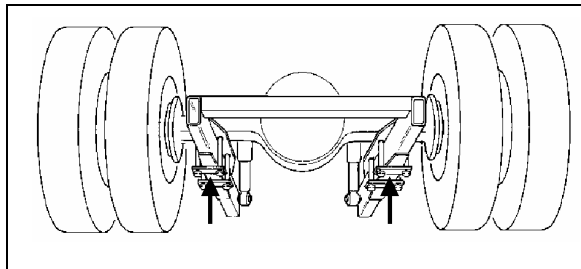
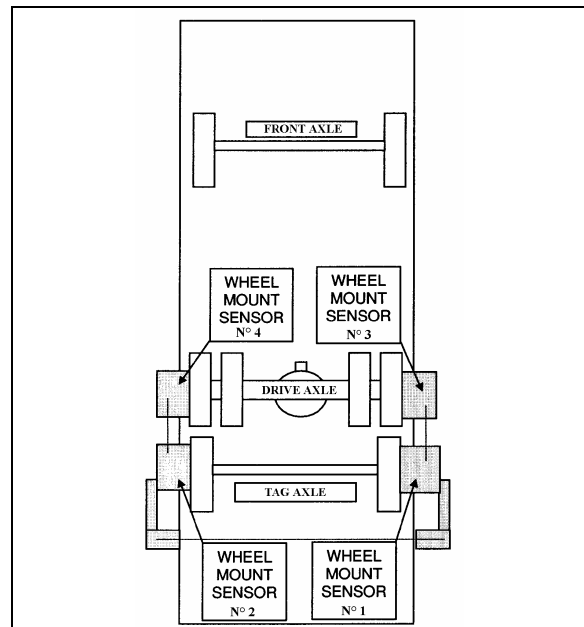

FIGURE 6: JACKING POINTS ON DRIVE AXLE H3B762
FIGURE 8: TAG AXLE ALIGNMENT 11026
8. Install jacks under the axle jacking points to support the axle weight (refer to figure 6).
- Remove and reinstall all wheel mount sensors on the drive and tag axes (fig. 8);
Note: Reinstall wheel mount sensors as shown in figure 8. For example, the sensor from the right side of the front axle is mounted on the left side of the tag axle. For corresponding wheel mount sensor reference numbers, refer to figure 6.